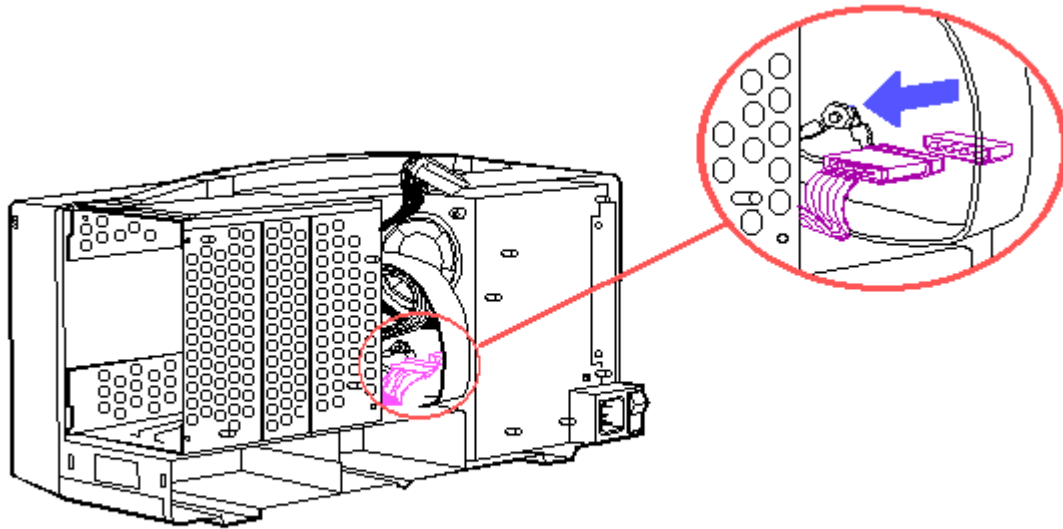

Figure 8-89. Disconnecting the Plasma Display Power Cable
9. Disconnect the plasma display power cable from the power supply (Figure 8-89).